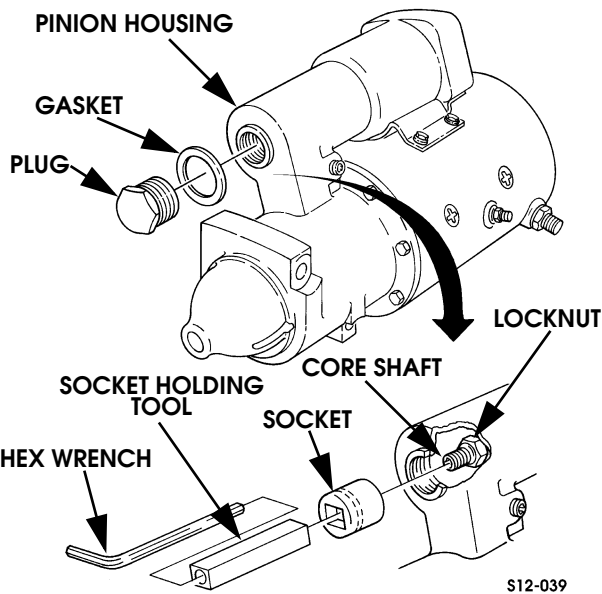

Figure 12-55: Core Shaft Nut Removal
2. Remove plug and gasket from pinion housing (Figure 12-55).
3. Remove core shaft nut with socket, fabricated socket holding tool, and hex wrench (Figure 12-55). Holding tool can be fabricated from suitable size square tube. Or, a suitable size thin wall, deep socket can be used.
27. Install core shaft nut. Tighten nut with socket, fabricated tool, and hex wrench (Figure 12-55)